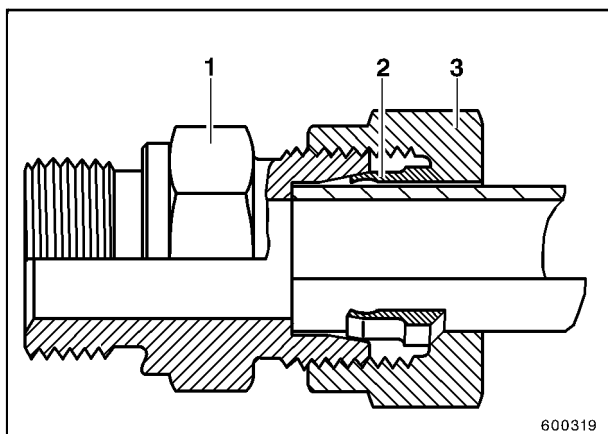

Fig. 5
Fig. 5 shows a pipe connection prior to the union nut being tightened. When the nut (3) is tightened, the pre-formed, hardened cutting ring (2) is pushed into the internal cone of the coupling body (1) and thereby cuts its way into the pipe, at the same time throwing up a ridge of cut material. The pipe is held firmly against the end shoulder of the coupling body and cannot therefore move while cutting is taking place.